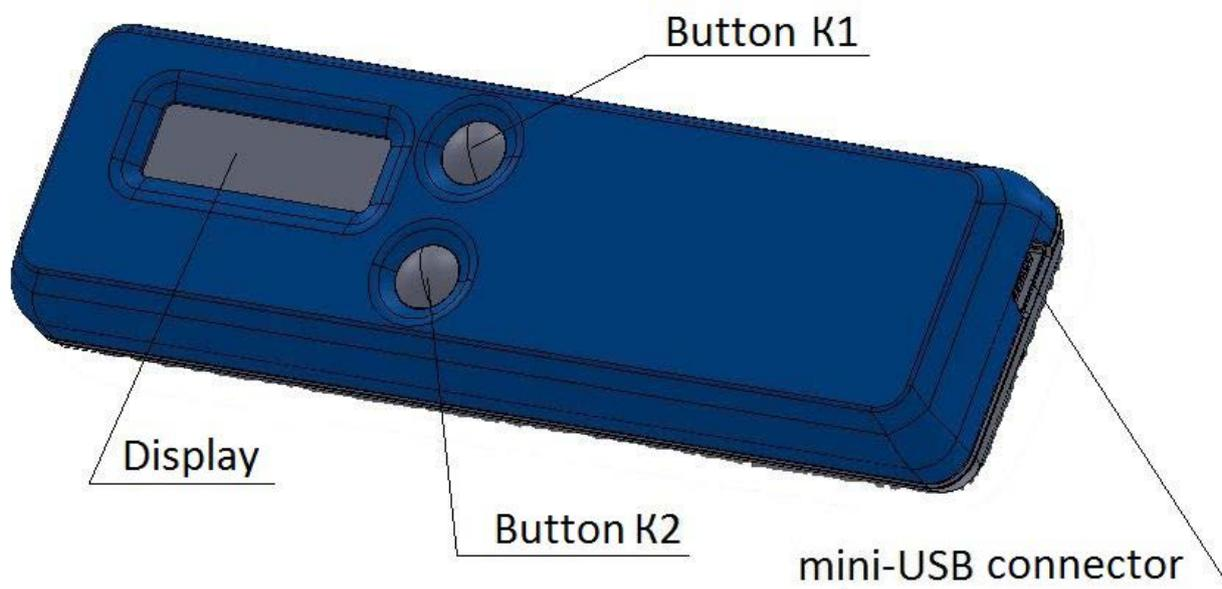

Figure 1 - General look of the dosimeter
On the housing of the dosimeter (Figure 1) there are:
2.2.1 Click and hold button K1 for 5 seconds (Figure 1) in order to switch on the dosimeter. If it is not on, you must charge the battery in accordance with p. 2.2.2. When the dosimeter is on, it begins the measure and first evaluation result appears not later than 20 seconds.